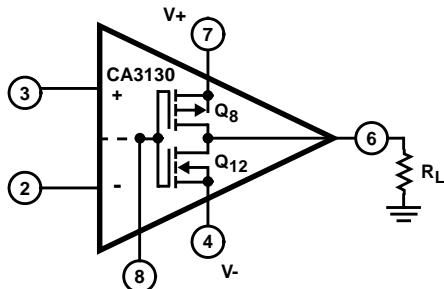

FIGURE 6A. DUAL POWER SUPPLY OPERATION
Because the CA3130 is very useful in single-supply applications, it is pertinent to review some considerations relating to power-supply current consumption under both single-and dual-supply service. Figures 6A and 6B show the CA3130 connected for both dual-and single-supply operation.
**Single-supply Operation:** Initially, let it be assumed that the value of RL is very high (or disconnected), and that the input-terminal bias (Terminals 2 and 3) is such that the output terminal (No. 6) voltage is at V+/2, i.e., the voltage drops across Q8 and Q12 are of equal magnitude. Figure 20 shows typical quiescent supply-current vs supply-voltage for the CA3130 operated under these conditions. Since the output stage is operating as a Class A amplifier, the supply-current will remain constant under dynamic operating conditions as long as the transistors are operated in the linear portion of their voltage-transfer characteristics (see Figure 2). If either Q8 or Q12 are swung out of their linear regions toward cut-off (a non-linear region), there will be a corresponding reduction in supply-current. In the extreme case, e.g., with Terminal 8 swung down to ground potential (or tied to ground), NMOS transistor Q12 is completely cut off and the supply-current to series-connected transistors Q8, Q12 goes essentially to zero. The two preceding stages in the CA3130, however, continue to draw modest supply-current (see the lower curve in Figure 20) even though the output stage is strobed off. Figure 6A shows a dual-supply arrangement for the output stage that can also be strobed off, assuming RL =  $\infty$  by pulling the potential of Terminal 8 down to that of Terminal 4.